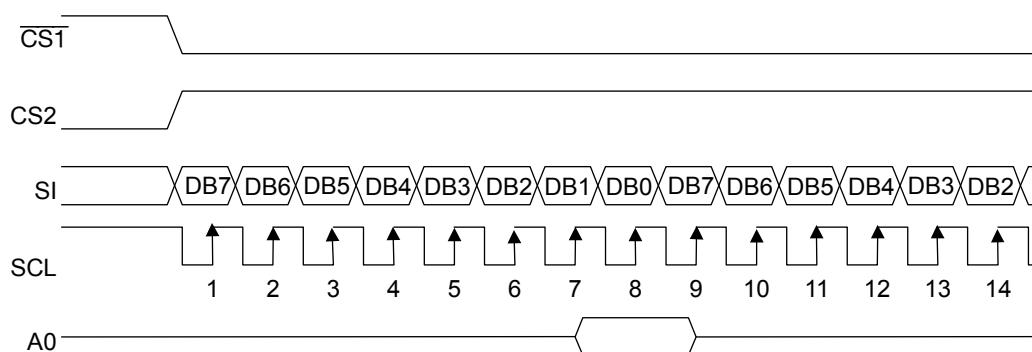

Fig. 1 Signal chart during serial interface
When the serial interface is selected ($P/\overline{S} = "L"$), the serial data input (SI) and the serial clock input (SCL) can be accepted if the chip is in the active state ($\overline{CS1} = "L"$ and $CS2 = "H"$). The serial interface consists of an 8-bit shift register and a 3-bit counter. The serial data is read in from the serial data input pin in the sequence DB7, DB6, ..., DB0 at the rising edge of the serial clock input, and is converted into parallel data at the rising edge of the 8th serial clock pulse and processed further. The identification of whether the serial data is display data or command is judged based on the A0 input, and the data is treated as display data when A0 is "H" and as command when A0 is "L". The A0 input is read in and identified at the rising edge of the $(8 \times n)$ th serial clock pulse after the chip has become active. Fig. 1 shows the signal chart of the serial interface. (When the chip is not active, the shift register and the counter are reset to their initial states. No data read out is possible in the case of the serial interface. It is necessary to take sufficient care about wiring termination reflection and external noise in the case of the SCL signal. We recommend verification of operation in an actual unit.)